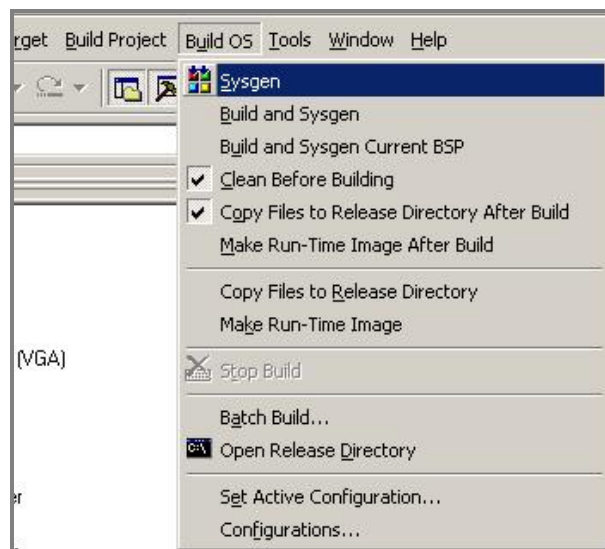

Figure 4-3 Sysgen a Clean OS Image
3. Select **Build OS > Sysgen** to build the OS design and perform a clean build of the PQOAL libraries (Figure 4-3).